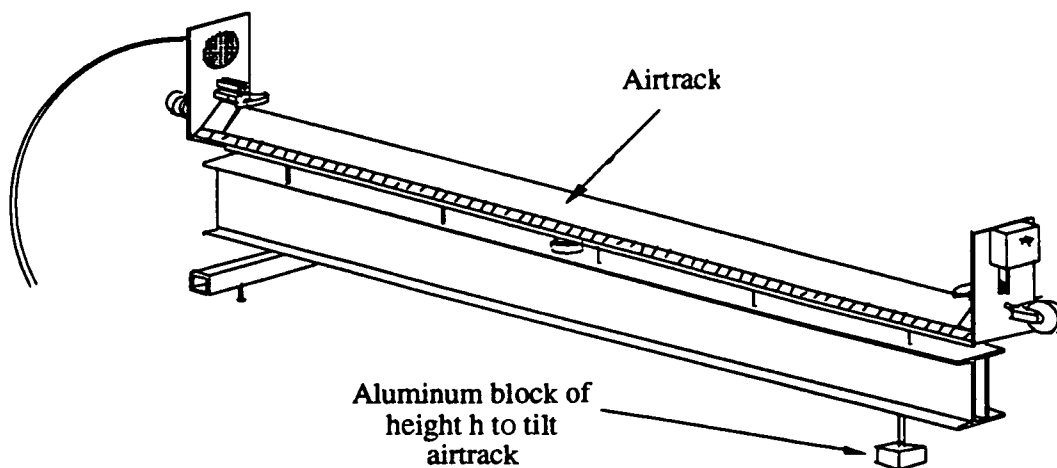

Figure 3: Part II. Tilting the airtrack with an aluminum block of height  $h$
1. Incline the air track by placing the  $\sim 0.0254$  m thick aluminum block under the single foot on one end of the air track as shown in Figure 3.